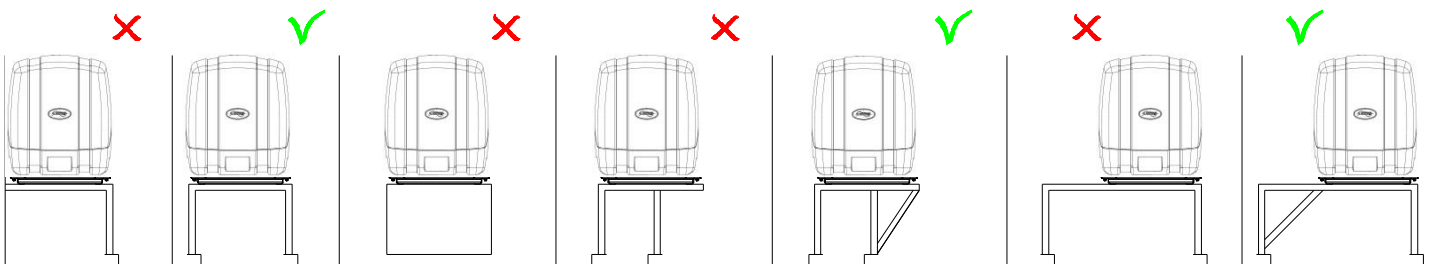

Figure 1: Mounting of a Whisper generating set. X = wrong, V = OK
1. Most important is the structure on which the Genverter is placed to be stiff. Directly below the base frame the structure should be supported vertically to the trusses of the boat. When this is not possible horizontal structures should be made stiff by additional provisions (refer to Figure 1).
5. Never connect the base of the generating set directly to walls or tanks (refer to Figure 1).